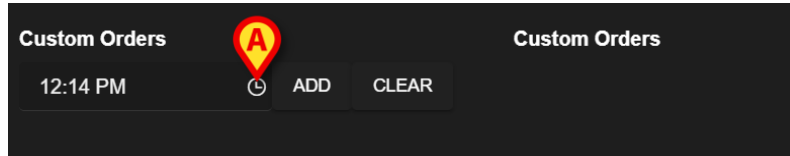
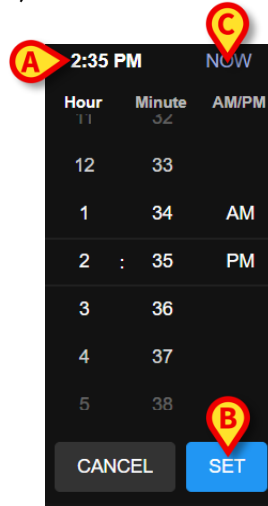

Fig 33
Fig 34
- Click the clock icon (Fig 33 **A**). A time selector opens (Fig 34).
The current time is selected by default (Fig 34 **A**).
A time range of 24 hours in the future is available for selection. If necessary, use the **Now** button (Fig 34 **C**) to set the current time again. After the required time is selected:
- Click the **Set** button (Fig 34 **B**).